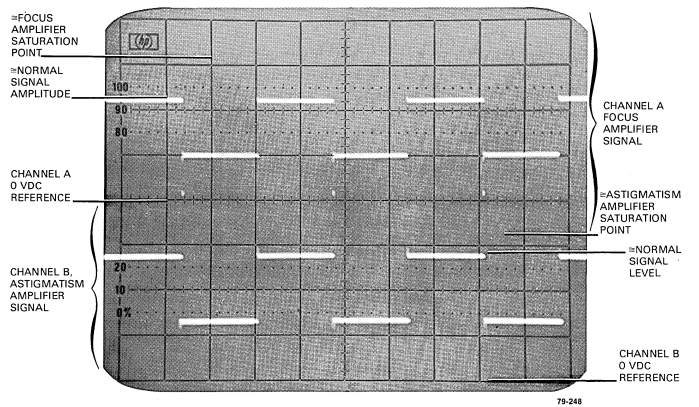

Figure 5-17. Focus and Astigmatism Waveforms
d. Set oscilloscope controls as follows and obtain the display as shown in figure 5-17.